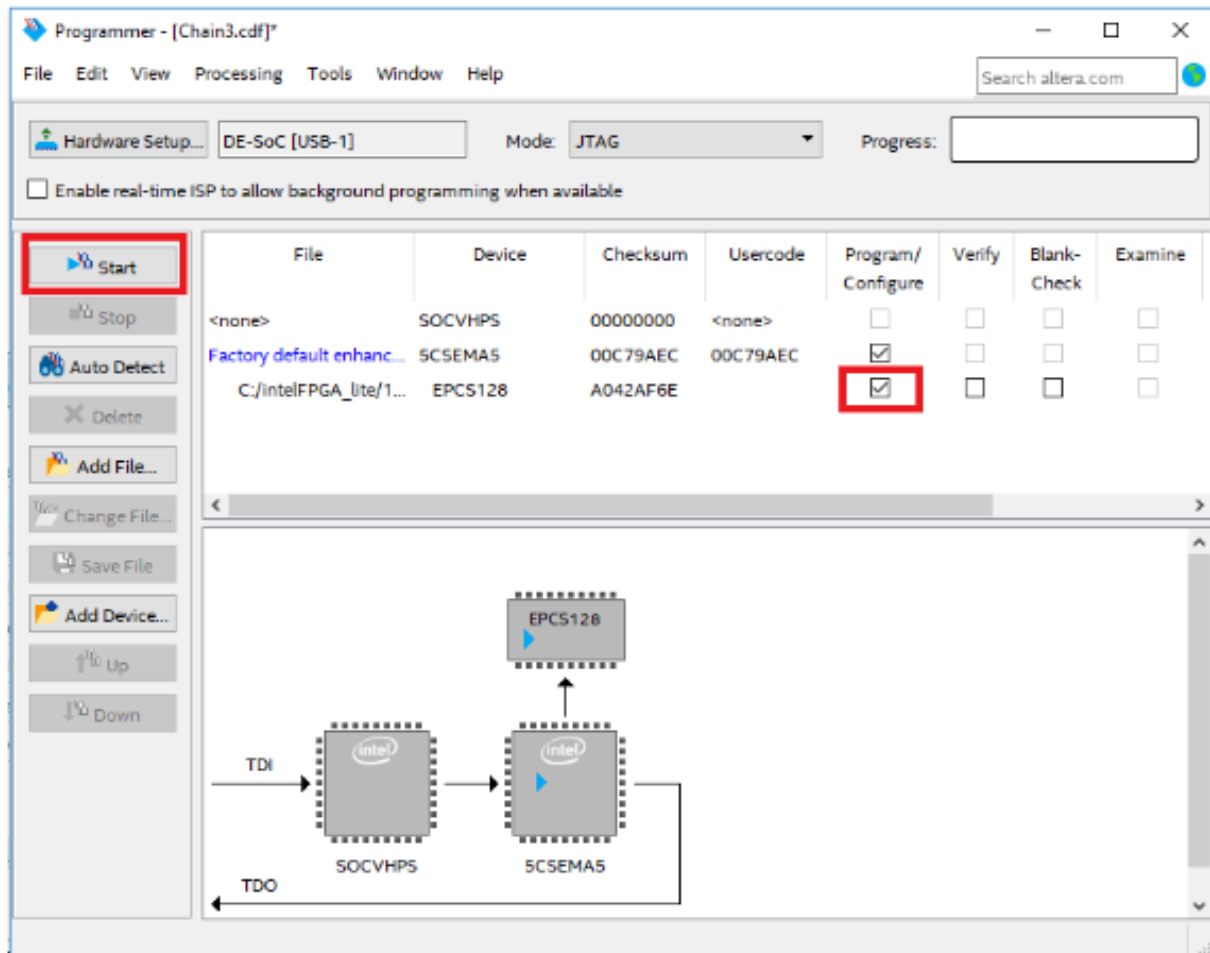

Figure 11: Program the JIC file - Step 5
- Finally, check the “Program/configure” box beside the “EPCS128” device, and then click “Start”, Fig. 11. After the .jic file has been programmed, you may close the programmer window and exit Quartus (there is no need to save changes to the existing chanin in case a dialogue box appears asking to do so). Lastly, switch the DE1-SoC board off and on. The Altera demo program from before should not be running on the board anymore.